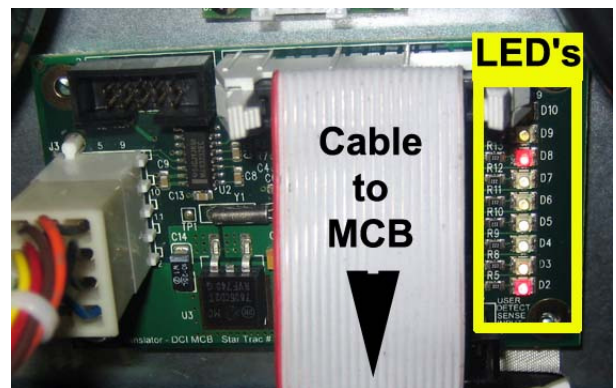
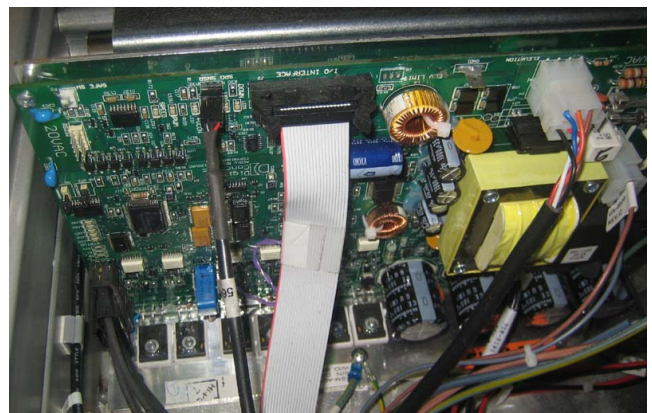

Fig. 1
Fig. 2
1. Check the Translator Board (Fig. 1). Verify that some of the LED's on the board are lit.
- a. If all LED's are off, ensure the ribbon cable is firmly connected at the Translator Board (Fig. 1) and at the MCB (Fig. 2). Check the ribbon cable for pinches or tears. Replace if any are found.